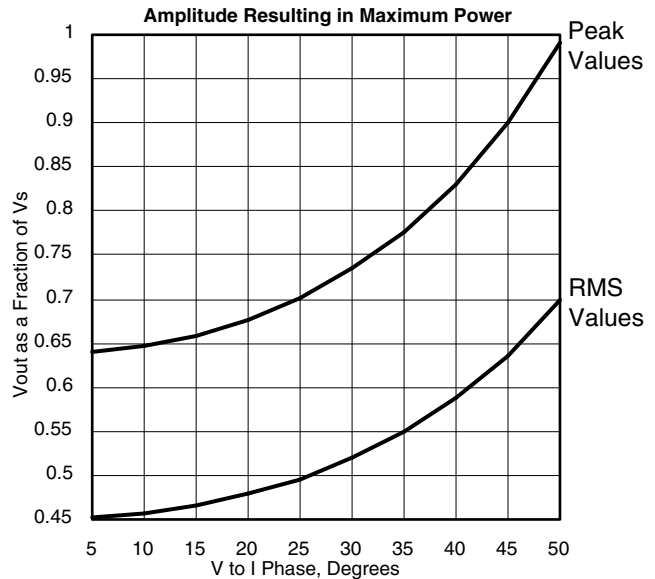

FIGURE 10. AMPLITUDE PRODUCING MAXIMUM POWER MOVES WITH PHASE ANGLE
- 1) The fraction of V_s corresponding to maximum power dissipation goes from 0.637 toward one. See Figure 10.
This method can be used analytically or on the bench as long as the test amplifier and heatsink are large enough to accommodate any errors in the first pass estimate of the circuit operation. Just as in the previous method, phase angle of the load must be known. Not only is it a term of the equations, but it is needed to determine the proper signal amplitude. Find the maximum power producing amplitude from Figure 10. If this is lower than the maximum amplitude your circuit will drive, use it. If not, use the circuit maximum.